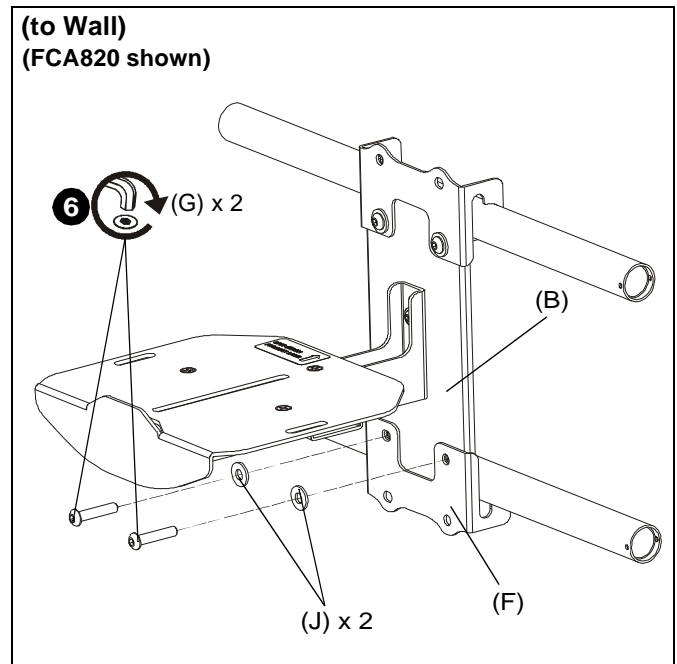

Figure 8
6. Use two 1/4-20 x 1 1/4" button head cap screws (G) and two 1/4" washers (J) to attach the other center holder (F) to center plate (B). (See Figure 8)